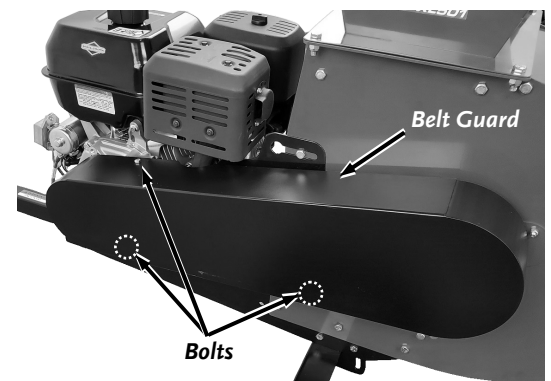

Figure 40
1. Remove the three Bolts supporting the Belt Guard using a 3/8" Wrench (**Figure 40**). Remove the Belt Guard and set aside.
23. Reinstall the Belt Guard (**Figure 40**).